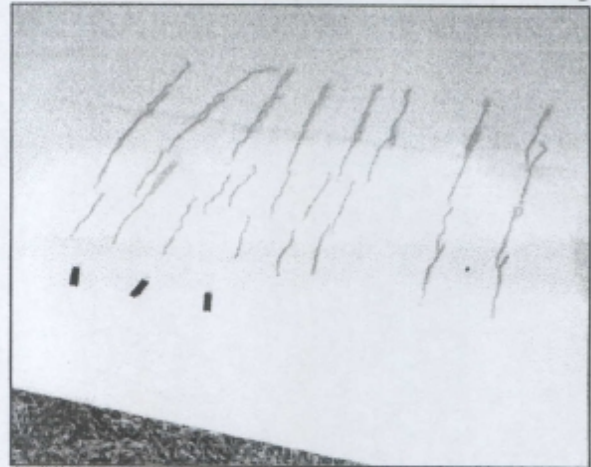

FIG. 7
- 6.2 Cut pieces of yarn 6" long. These are called tuffs. Cut enough pieces of yarn to cover approximately a 2.5' X 2.0' area of wing with the yarn spaced approximately 3" span wise and 6" chord wise. Stick the tuffs to the wing approximately at mid span with regular scotch 810 mending tape starting close to the leading edge of the wing and working your way back. Temporarily stick 3 vortex generators in a staggered manner at the 3.5" spacing given on template 1 with the leading edge vortex generator at the .90 chord position from the trailing edge. With the template correctly positioned take a felt marker with water soluble ink (Mr. SKETCH water color markers manufactured by Sanford) and draw the outline of the location of 3 vortex generators using the template as a guide. Place double sticky tape over the marked outlines for the position of the 3 vortex generators. Use scotch double sticky tape 665, also 665 tape comes in a dispenser identified with the number 137DM-2. Then stick the vortex generators to the double sticky tape. See figure 7 for a typical layout. Note the normally clear vortex generators have been painted black for better picture contrast.